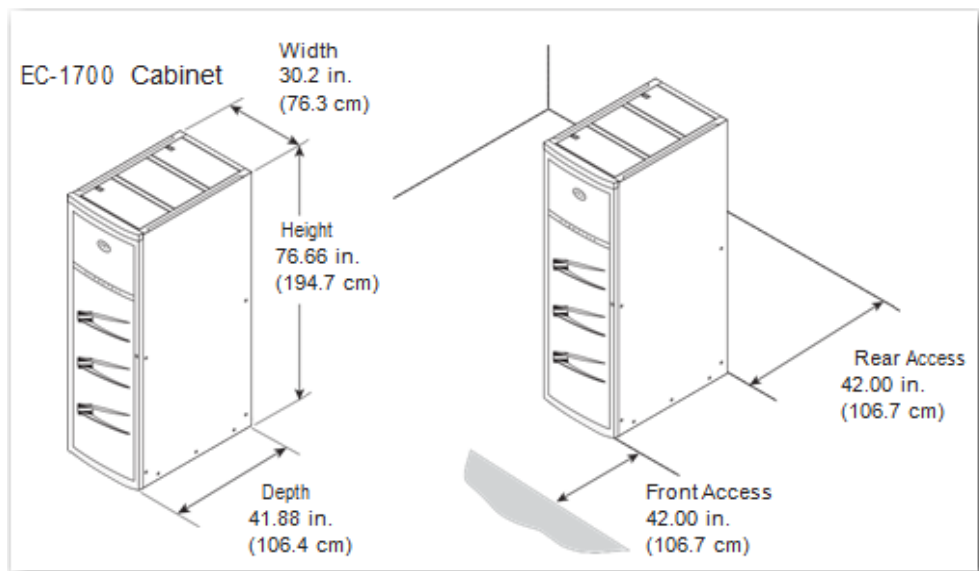

Figure 7 EC-1700 cabinet area clearances
Most Dell EMC cabinets ventilate from front to back; you must provide adequate clearance to service and cool the system (Figure 7).
- ◆ Use or create no more than one floor tile cutout that is no more than 12 in. (30.5 cm) wide by 12 in. (30.5) deep, or no larger than recommended by the customer's floor tile manufacturer, in each 24 x 24 in. (61x 61 cm) floor tile. See (Figure 7 on page 35).